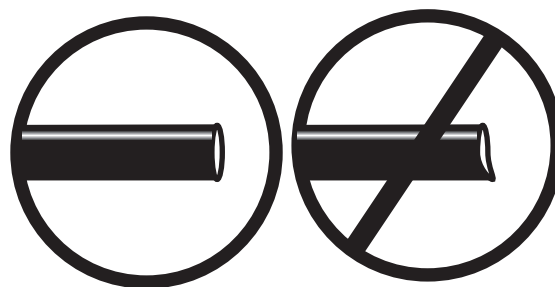

fig. 12
- a. Check the air line connection by deflating the spring and removing the line by pulling the collar against the fitting and pulling firmly on the air line. Trim 1" off the end of the air line. Be sure the cut is clean and square (see fig. 12). Reinsert the air line into the push-to-connect fitting.